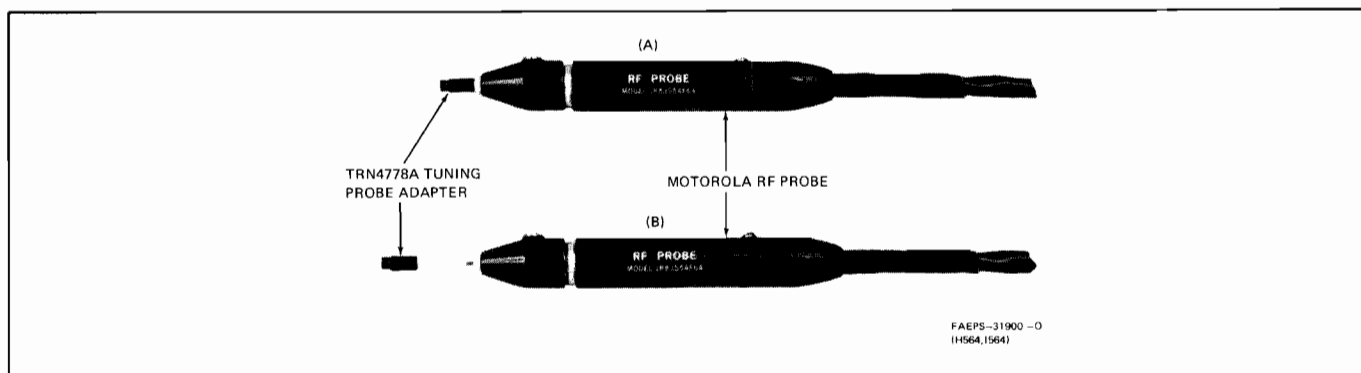

Figure 2. MCX100 Alignment Probe (A) RF Probe with Tuning Adaptor in position (B) RF Probe and Tuning Adaptor separated
Step 9. Press the tuning probe adaptor (Motorola No. TRN4778) onto the probe of the rf voltmeter as shown in Figure 2.
Step 9. Press the tuning probe adaptor (Motorola No. TRN4778) onto the probe of the rf voltmeter as shown on Figure 2.